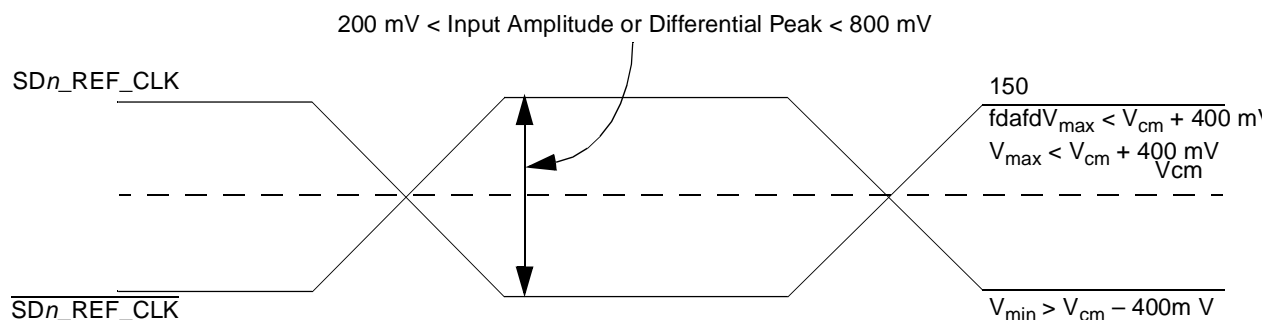

Figure 57. Differential Reference Clock Input DC Requirements (External AC-Coupled)
- For **external AC-coupled** connection, there is no common mode voltage requirement for the clock driver. Since the external AC-coupling capacitor blocks the DC level, the clock driver and the SerDes reference clock receiver operate in different command mode voltages. The SerDes reference clock receiver in this connection scheme has its common mode voltage set to $SGND_SRDSn$. Each signal wire of the differential inputs is allowed to swing below and above the command mode voltage ($SGND_SRDSn$). Figure 57 shows the SerDes reference clock input requirement for AC-coupled connection scheme.